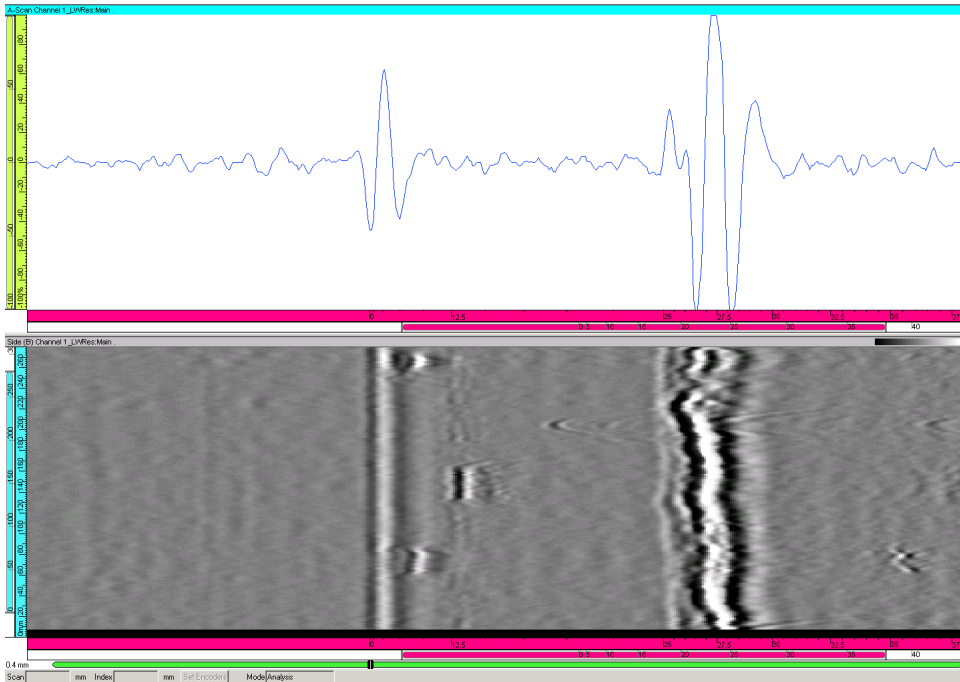

Figure 7-19 TOFD data after lateral wave synchronization
7. In the menu, select **View > Contents** and display the newly created **LWS**. The lateral wave is now synchronized (see Figure 7-19 on page 358).